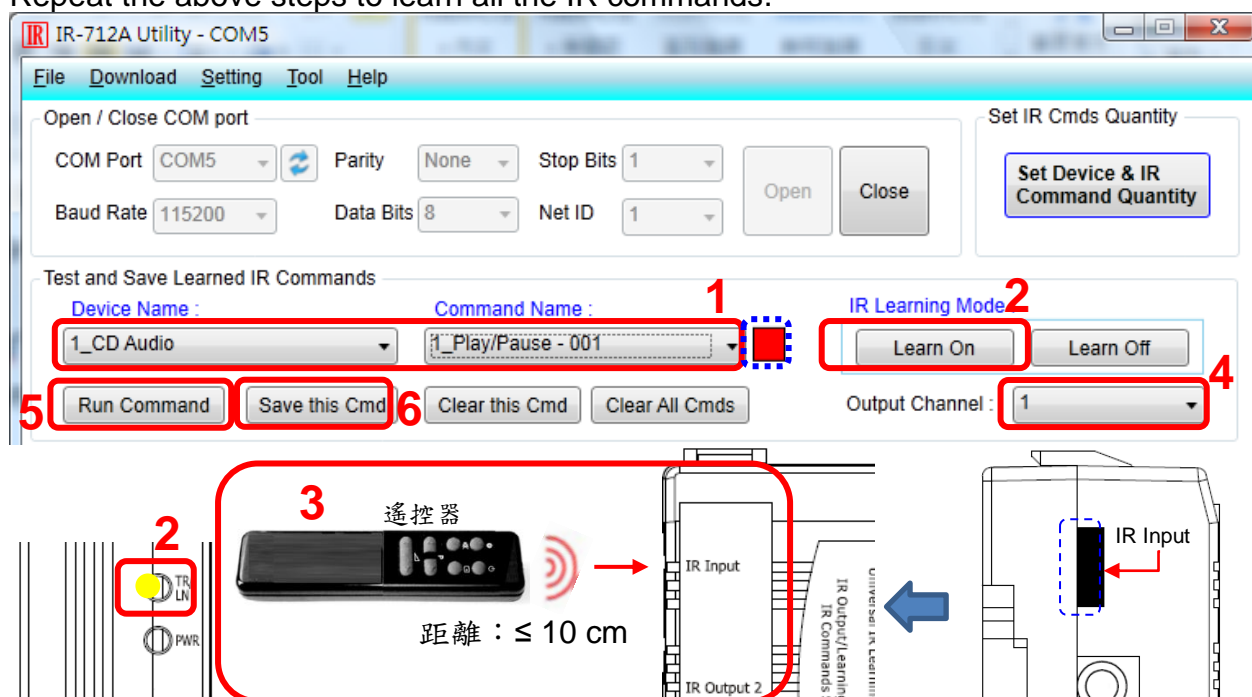

Fig. 4-6: The steps to learn IR commands.
Follow the steps below and Fig. 4-6 to learn and test IR commands:
- (1) Determine the IR command for learning by selecting the items in the “Device Name” and “Command Name” combo boxes.
- (2) Click the “Learn On” button to enable the IR learning mode on IR-712A. At the same time, the TR/LN LED is turned on to show the IR learning state.
- (3) Aim the IR emitter head of the device’s remote control at the IR input of IR-712A. The distance less than 10 cm between the remote control and the IR-712A would be best. Then, press the button of the remote control which is to be learned in a short time. If the learning for the IR command is finished, the TR/LN LED will be turned off and the IR learning data will be sent back to the Utility.
- (4) Select the IR output channel. For example in Fig. 4-6, the IR output channel is 1.
- (5) Aim the head of the IR emitter cable plugged in the IR output 1 at the corresponding IR-controlled device. Click “Run Command” button to emit the IR command from the IR-712A. You can check if the learned IR command is OK by investigate the action of the appliance. If not, please repeat step 2 and step 3 again.
- (6) Click “Save this Cmd” button to save this IR learning command to the current item of the “Command Name” combo box, e.g. the item is “Play” in Fig. 4-6.